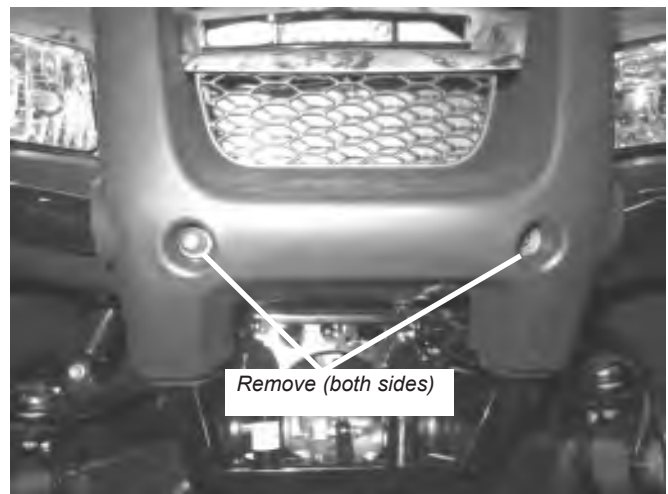

Figure 3 Front Plastic Fascia Bolts
3. Remove the two 6mm bolts that attach the front plastic fascia to the bumper, figure 3. Remove the front plastic fascia at this time.